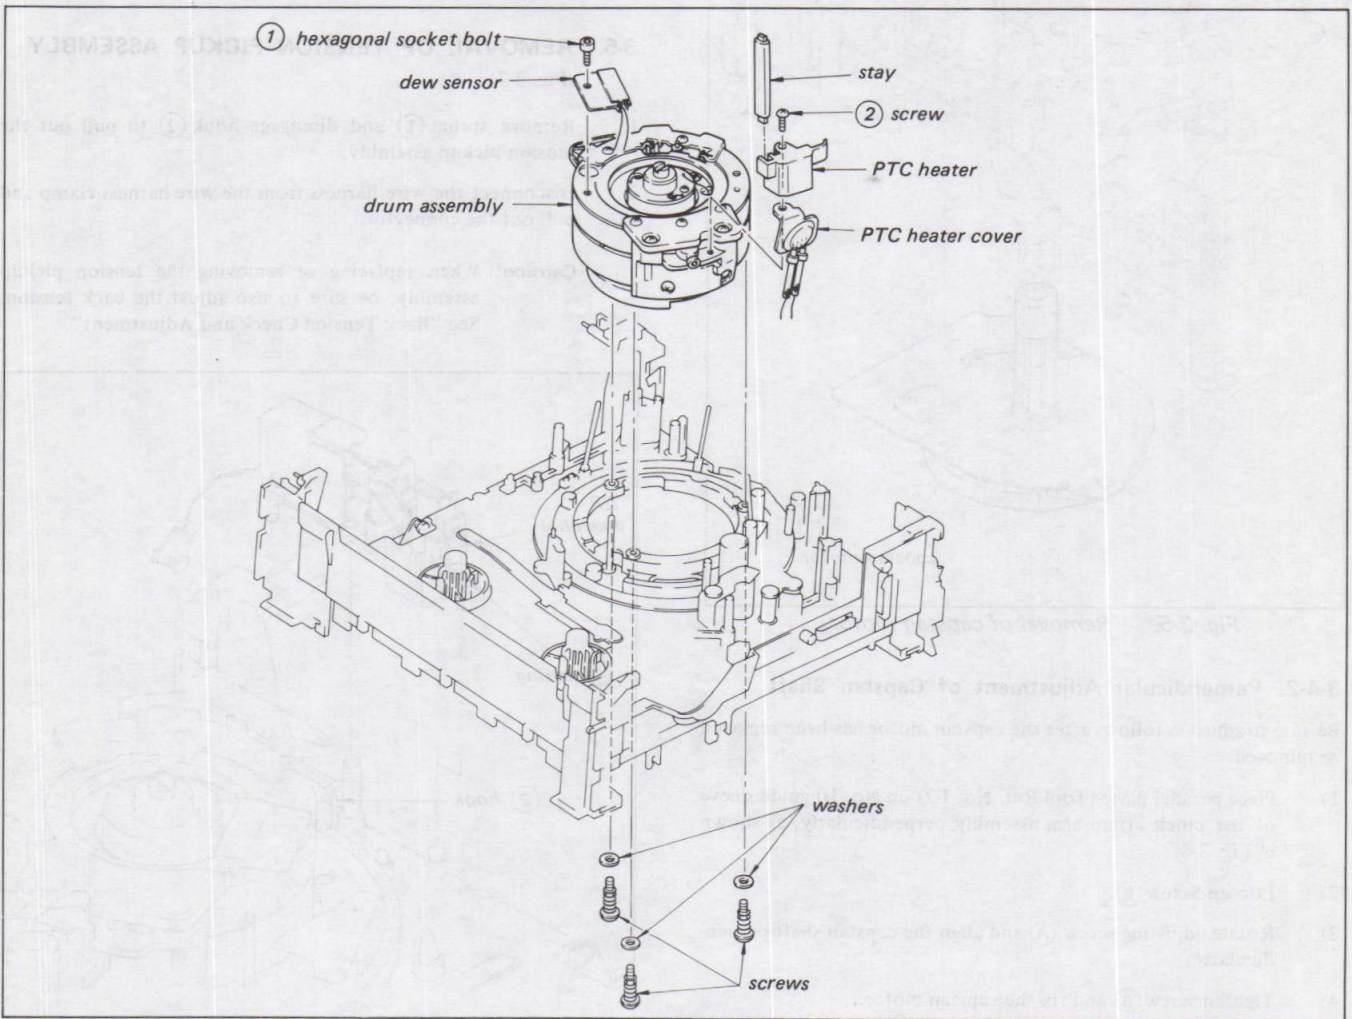

Fig. 3-4. Replacement of drum assembly
4. Unfasten dew sensor bolt ① shown in Fig. 3-4 and remove the dew sensor.
5. Unscrew screw ② and remove the PTC heater cover, PTC heater and stay from the drum body.